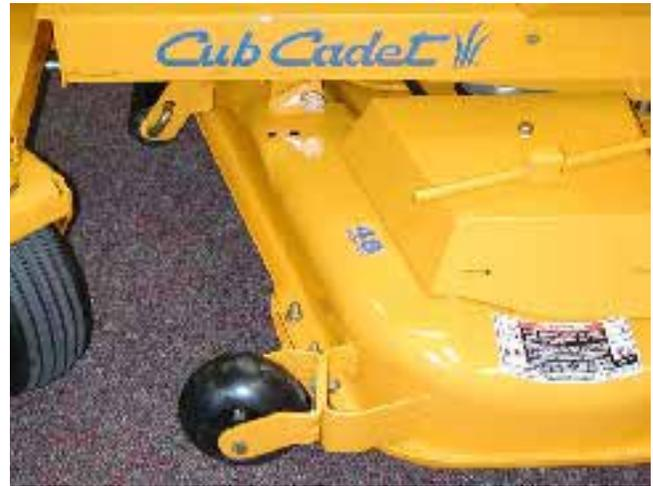

Figure 15.3
- 15.3. The cutting decks are all similar to those offered elsewhere in the Cub Cadet model line, with the exception of the mounting method and drive orientation (front Vs. rear engine). See Figure 15.3.